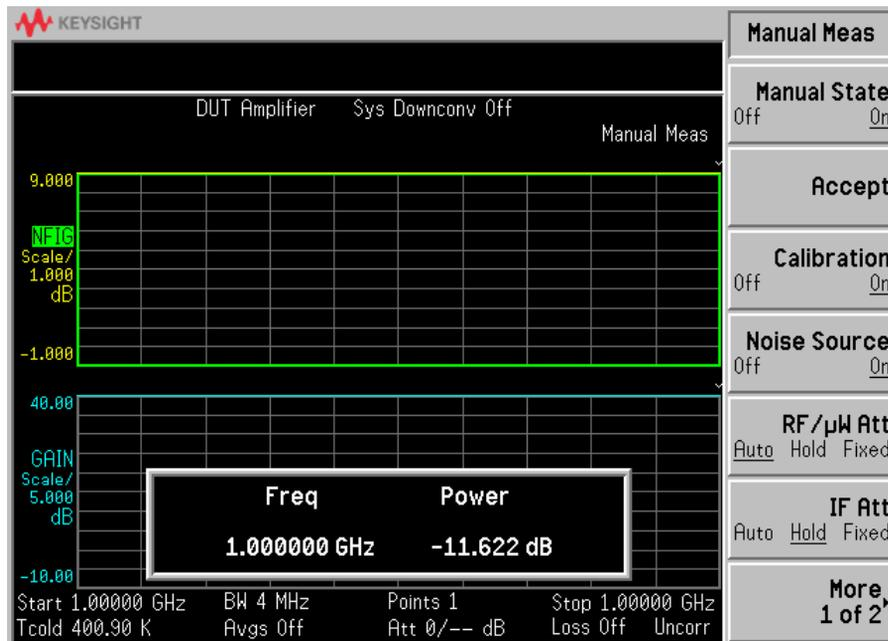

Figure 4-10 Typical example of power reading with Noise Source On
- 13 Monitor the power value which appears in the manual measurement screen. **Figure 4-10** on page 39 shows a typical example of this.